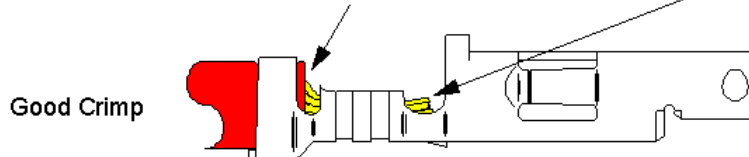

FIG. 15
5.2.7 Wire Inserted Too Far (fig. 15)
- Another crimping problem that relates to a too short strip length occurs when the wire is inserted too far into the crimp sections. As the fig.15 below shows, the insulation is too far forward of the insulation crimp section and the conductors protrude into the transition section. This may cause as many as three failure modes in the actual application. Two relate to a reduced current rating/wire pull out force due to a reduction of the metal-to-metal contact in the conductor crimp section.